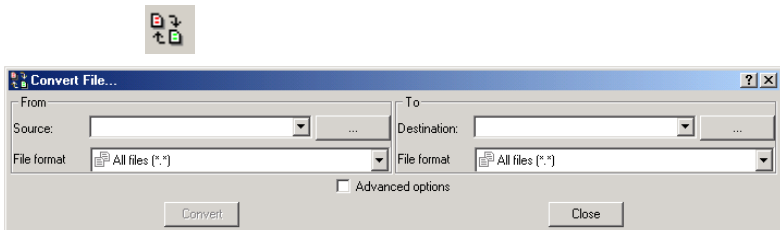

Figure E-22. Click Convert Icon
1. Click the **Convert** icon on the toolbar; the *Convert File* dialog box displays (Figure E-22).